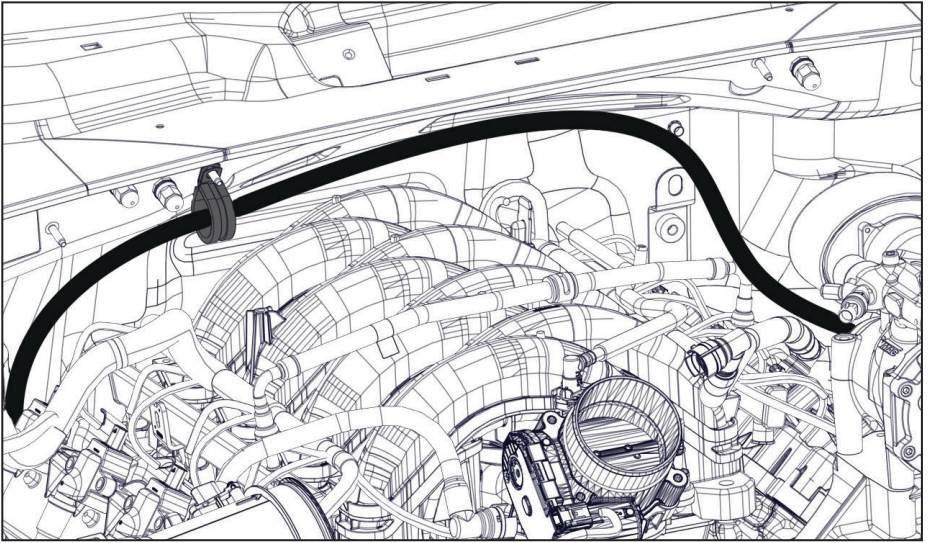

Figure 53 — Install hose routing bracket
- Using the supplied P-clip and fastener, secure the 3/4 in discharge hose to the firewall (Figure 53).